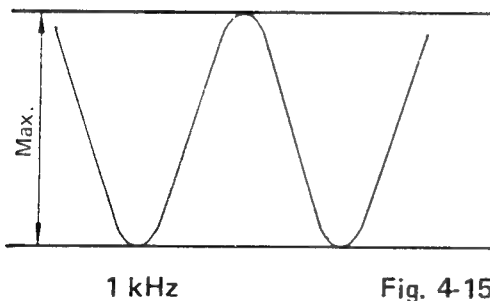

Fig. 4-15
3. Adjust nut (A) to obtain maximum audio output level (Fig.4-15/17)